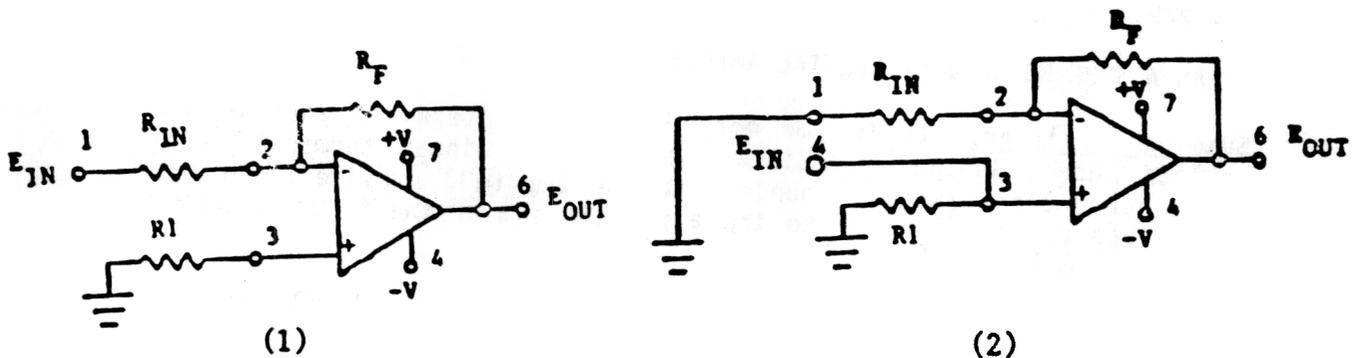

Figure 14. Gain control feedback network
Gain in an op amp is controlled by a feedback network. The open loop gain of op amps is very high (in the thousands). Open-loop gain will result in distortion of the output signal. Gain is normally controlled by using negative feedback. The output voltage is opposite in polarity (inverted phase for an AC signal) when an input is applied to the inverting terminal. The output voltage has the same polarity (same phase for an AC signal) when an input is applied to the non-inverting terminal. Negative feedback is achieved by connecting a resistor between the output terminal and the input terminal as shown in Figure 14(1). The input resistor, R_{in} , is in the circuit to provide a ratio between the input resistance and the feedback resistance. This ratio is the voltage gain of the circuit.
The op amp in figure 14(1) is connected as an inverting amplifier. The voltage gain of this circuit is calculated by the formula $A_V = R_F / R_{in}$. The output voltage is calculated by the formula $E_{out} = R_F / R_{in} \times E_{in}$.
When the op amp in Figure 14(2) is connected as a non-inverting amplifier the input signal is applied to terminal 3. Rin is connected to ground at terminal 1. The voltage gain is calculated by the formula $AV = 1 + RF/Rin$. The output voltage is calculated by the formula $Eout = (1 + RF/Rin) \times Ein$. The output DC voltage is the same polarity as the input (same phase for an AC signal). For a DC input voltage, assume $RF = 10K$, $Rin = 5K$ and $Ein = +1VDC$. $Eout = (1 + 10K/5K) \times 1VDC = +3VDC$. For an AC signal, assume $RF = 10K$, $Rin = 5K$ and $Ein = 1V P/P$. $Eout = (1 + 10K/5K) \times 1V P/P = 3V P/P$ in phase.